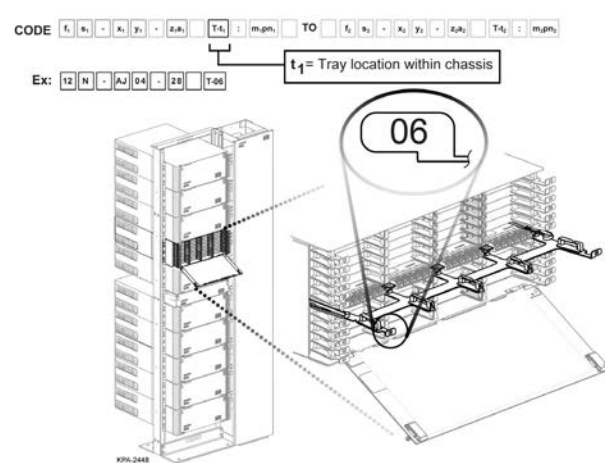

Figure 27 —Housing/Chassis Label Location
Step 2: Housing/Chassis Location (Figure 27)